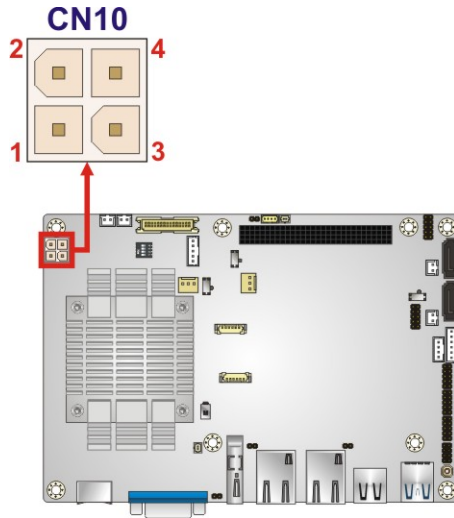

Figure 3-3: CPU Power Connector Location
- CN Location:** See **Figure 3-3**